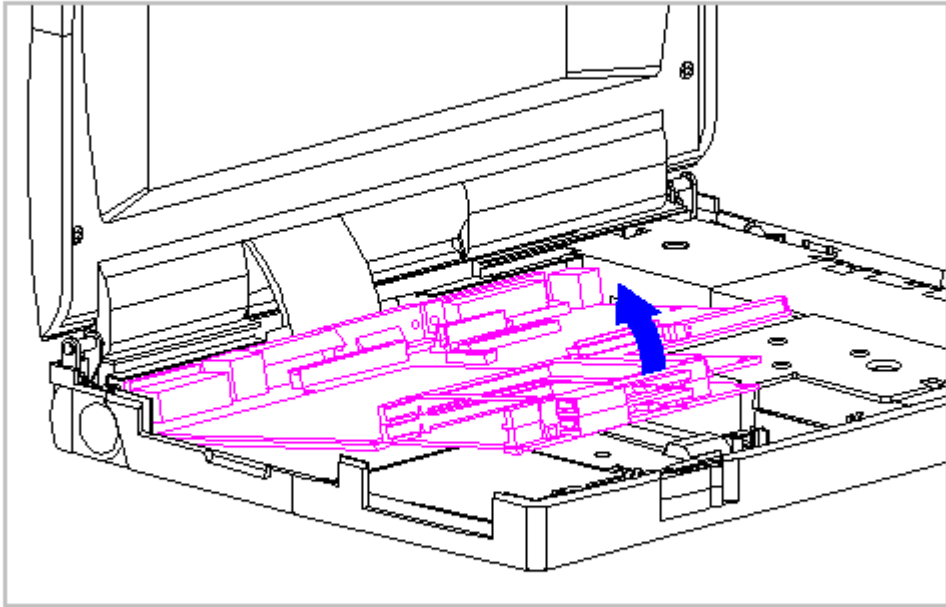

Figure 3-55. Removing the System Board (All Models)
17. From the front of the computer, tilt the system board up then lift the system board out of the system chassis (Figure 3-55).